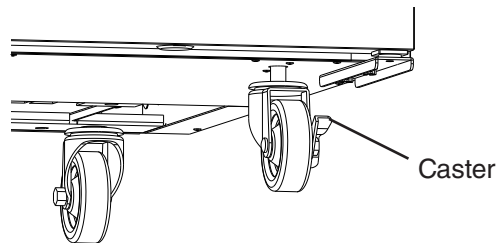

Fig. 2
- 2) Unscrew the appropriate caster to the approximate desired height. See Fig. 2.